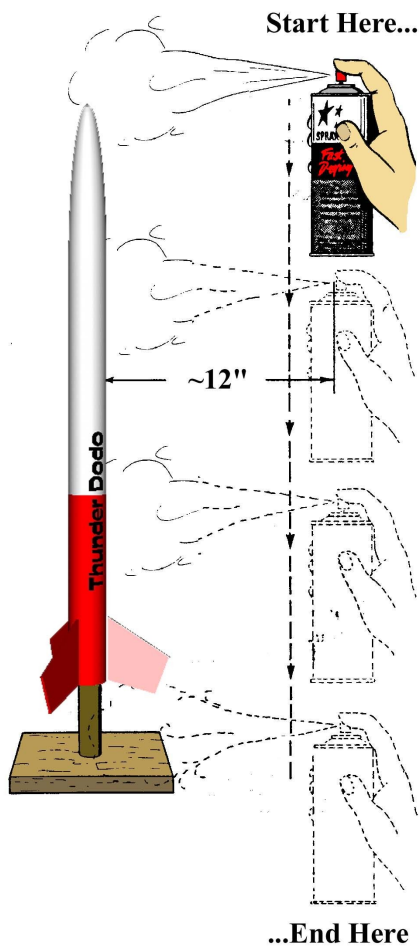

Figure 8
- **Step 19** Tack-rag the model to remove loose sanding dust. As shown in Fig. 8 above, use a top-to-bottom motion when applying primer, paint, and clear coats. This is to reduce the chances of runs, which can ruin the finish. Begin the spraying above the top of the model, and continue the spraying past the bottom of the model. This will reduce the chances of splatter. Allow at least a full day between coats for drying time. Apply at least two full coats of primer to the model before sanding the first time with 220-grit paper. Tack-rag the model after each sanding.